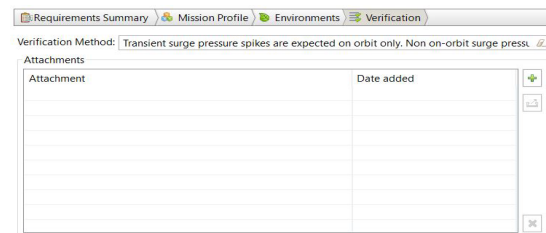

Figure B56: RVT Verification Input Tab
- 3) Enter the *Verification Method* planned for each requirement by opening the *Verifications* tab (Figure B56) of the *Requirement Details* section of the *RVT Requirements* window and entering text or using the drop-down option (viewable by pressing the space bar) to add one or more methods.